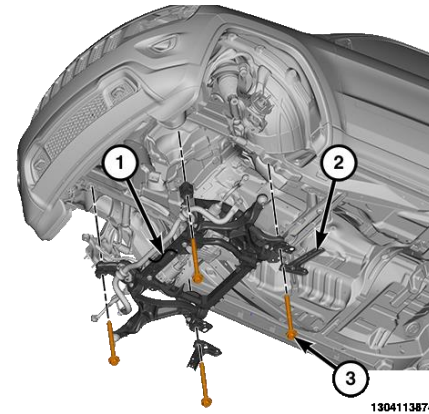

Figure 16 - Cradle
33. Remove the four cradle bolts (3) and separate the cradle crossmember (1) and brackets (2) from the vehicle (Figure 16).
17. Tighten the four engine cradle support bolts to 180 N·m (133ft. lbs.) (Figure 16).